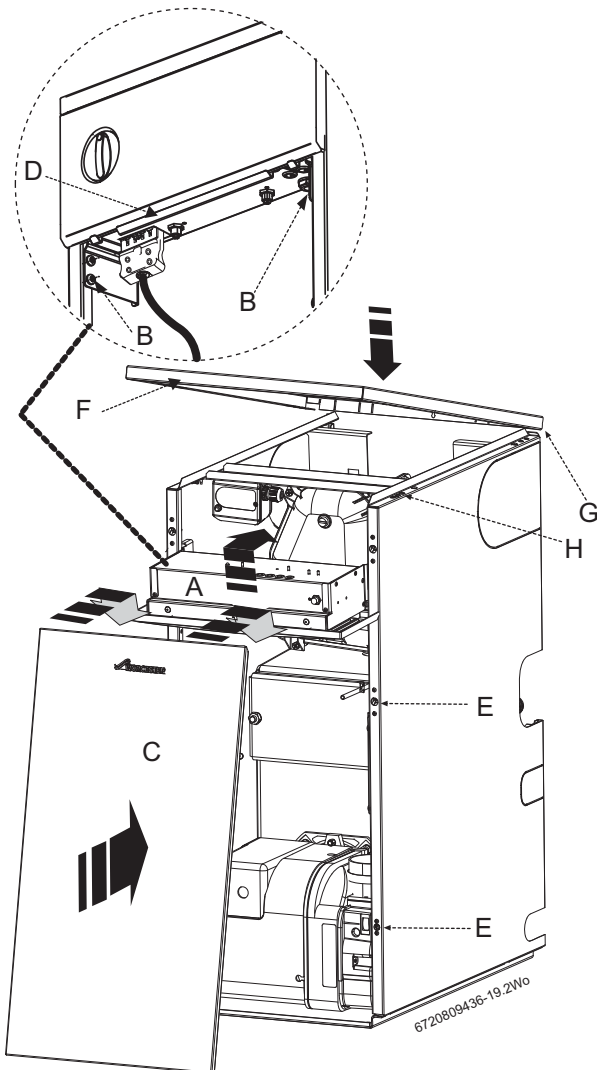

Fig. 75
- ▶ Pivot the control box (A) figure 75 up and into the boiler. Secure with screws (B).